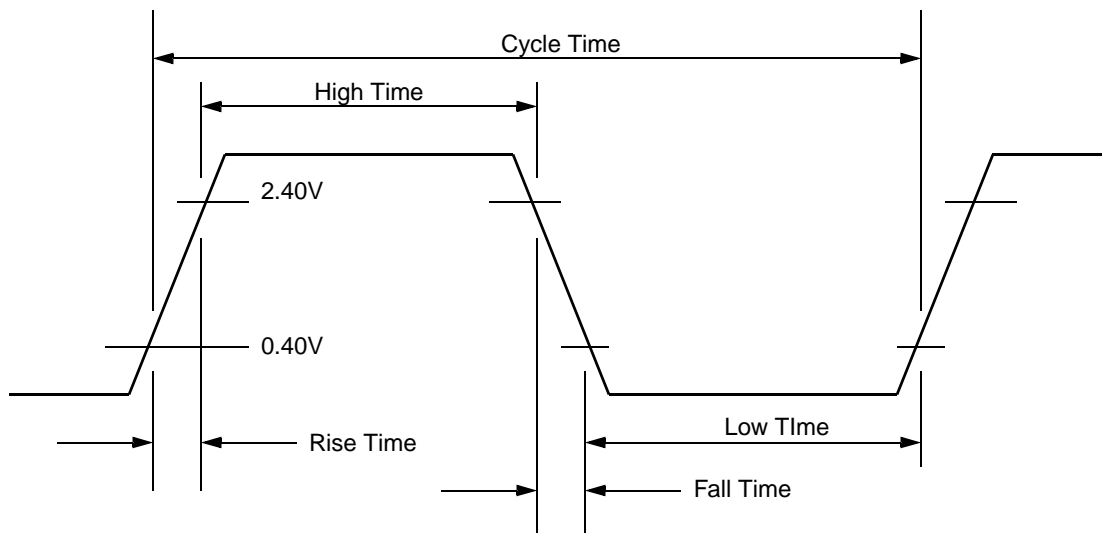
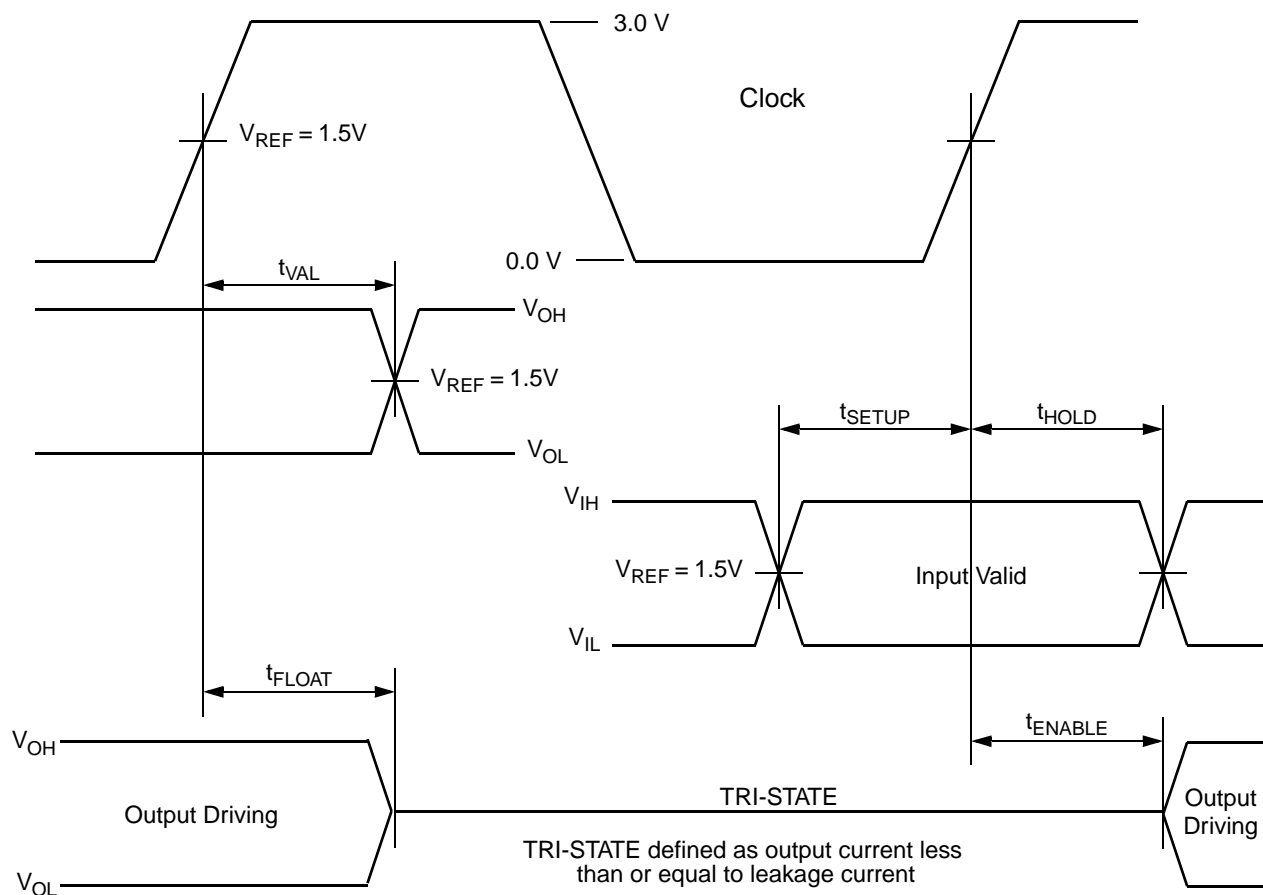

Figure 6-1. Clock Reference Definition
Figure 6-2. AC Reference Timing and Test Definition
Figure 6-1 and Figure 6-2 provide reference definitions used in this section.
Note 1. Signal parameters are defined in Figure 6-1 "Clock Reference Definition" on page 530.
- Signal and test parameters are defined in Figure 6-2 "AC Reference Timing and Test Definition" on page 530.